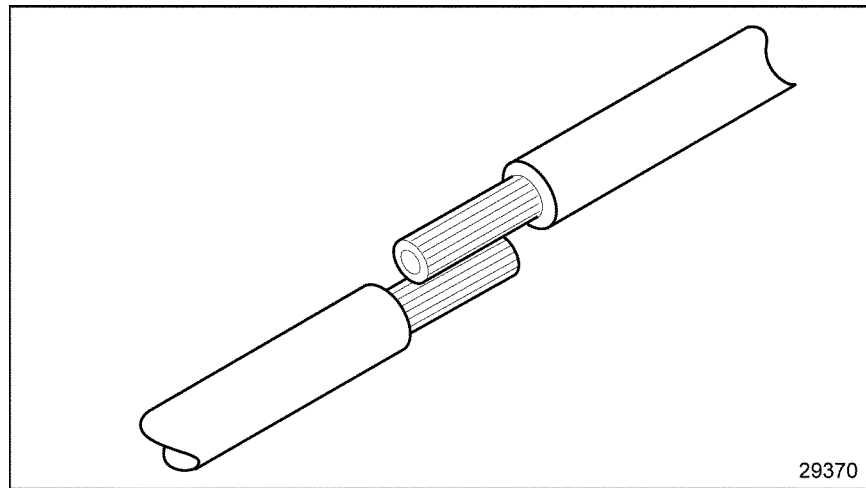

Figure 3-16 **Positioning the Leads**
1. Position the leads, so one overlaps the other. See Figure 3-16.